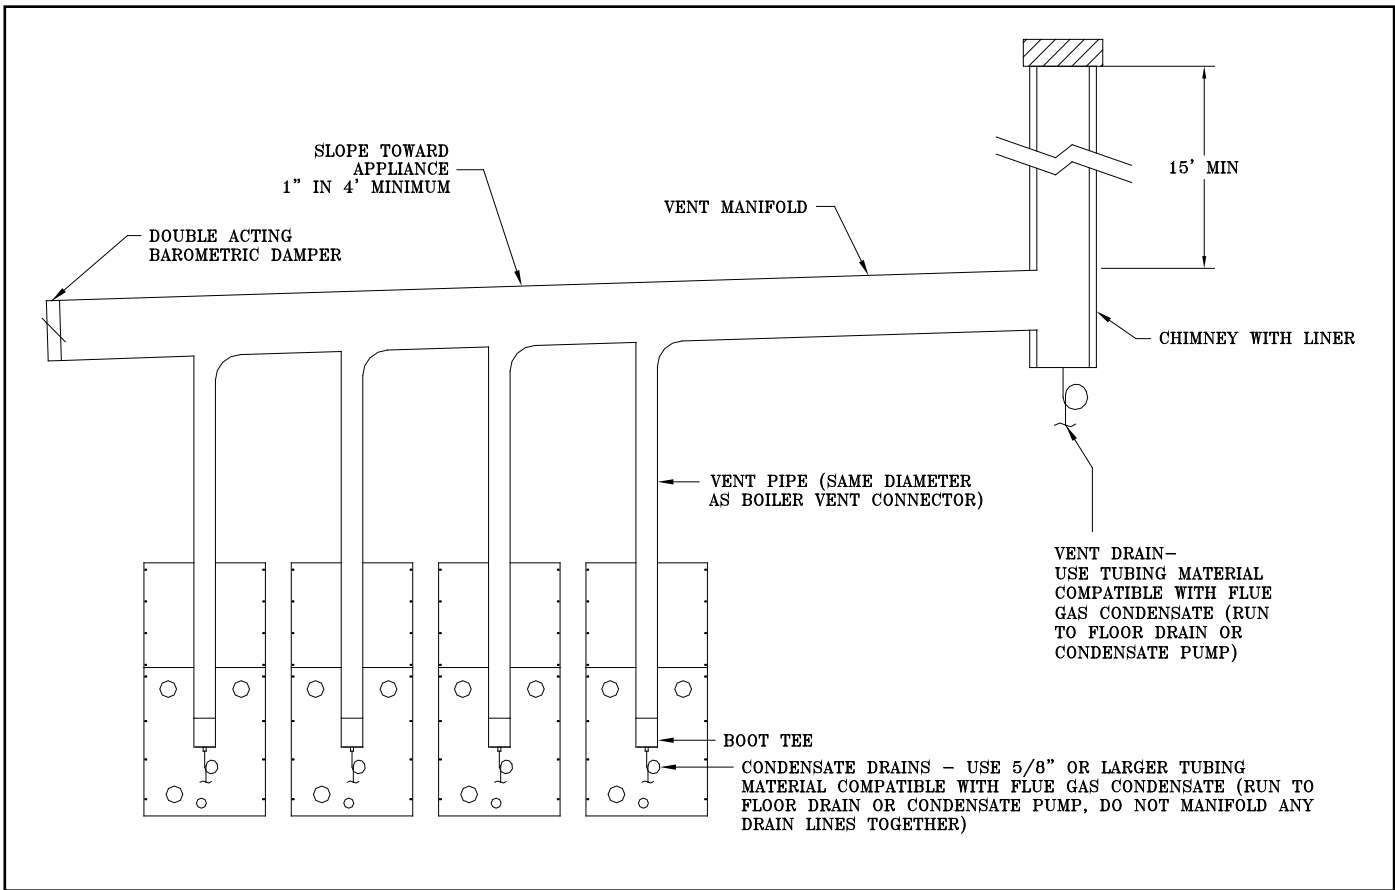

Figure 10: Modular System: Conventional Venting (Negative Pressure)
- i. Refer to Figure 10 for an example of a typical conventional venting arrangement for modular boilers.
- iii. Install a double acting barometric damper with integral flue spillage interlock (as shown in Figure 10).
- vi. Install a condensate drain to collect any condensate that may form in the lined chimney or vertical common vent (refer to figure 10).